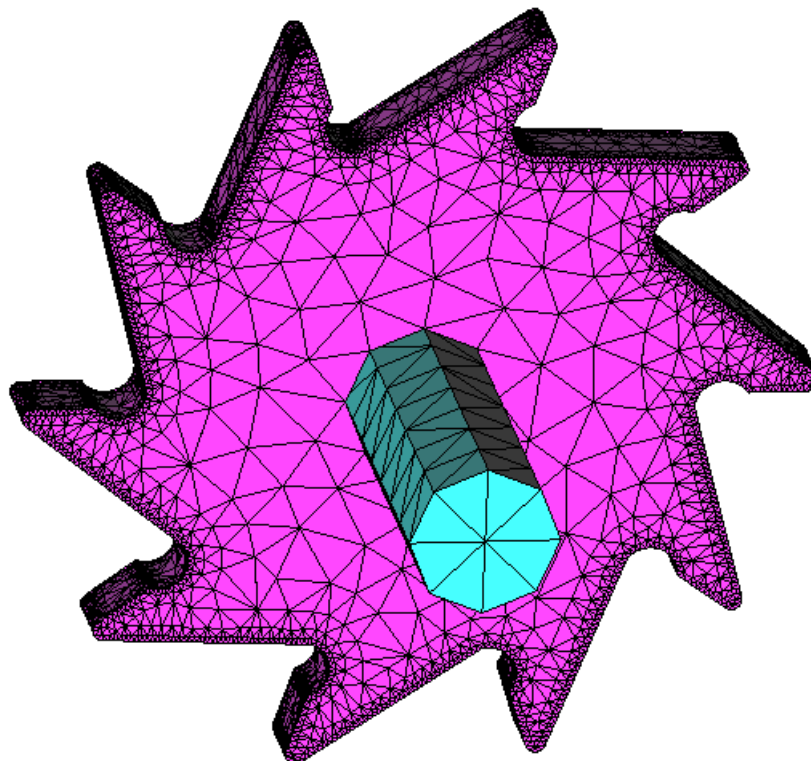

Figure 38. Mesh with assignment of sizes around lines
- 8 . A greater concentration of elements has been achieved around the selected lines. In contrast to the case in previous section, this mesh is more accurate since lines define the profile much better than points do (Figure 38).